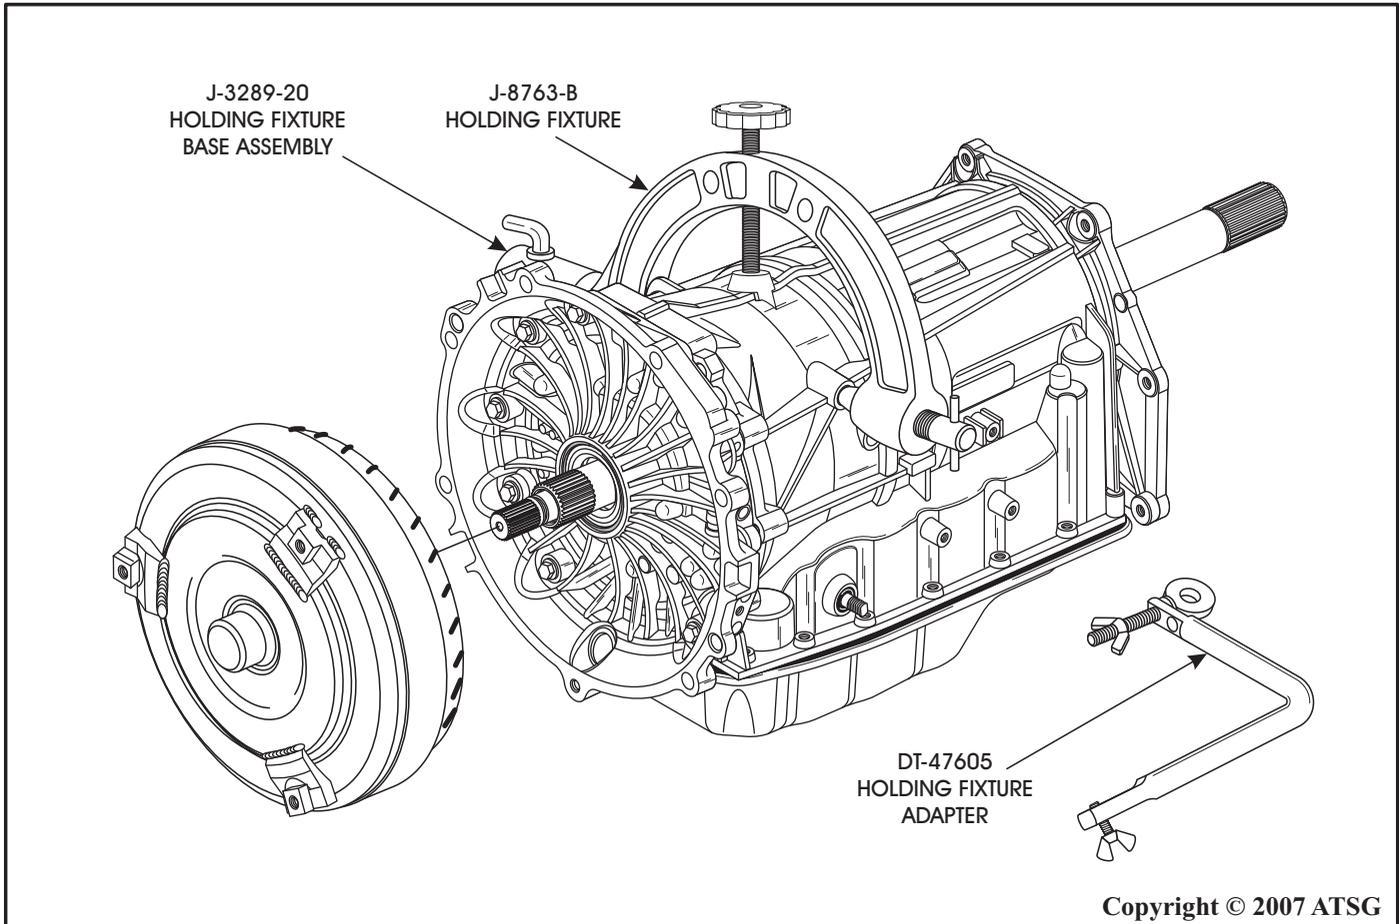

Figure 178
56. Install the torque converter onto transmission, with a rotating motion until fully engaged with the splines and the oil pump rotor, as shown in Figure 178.